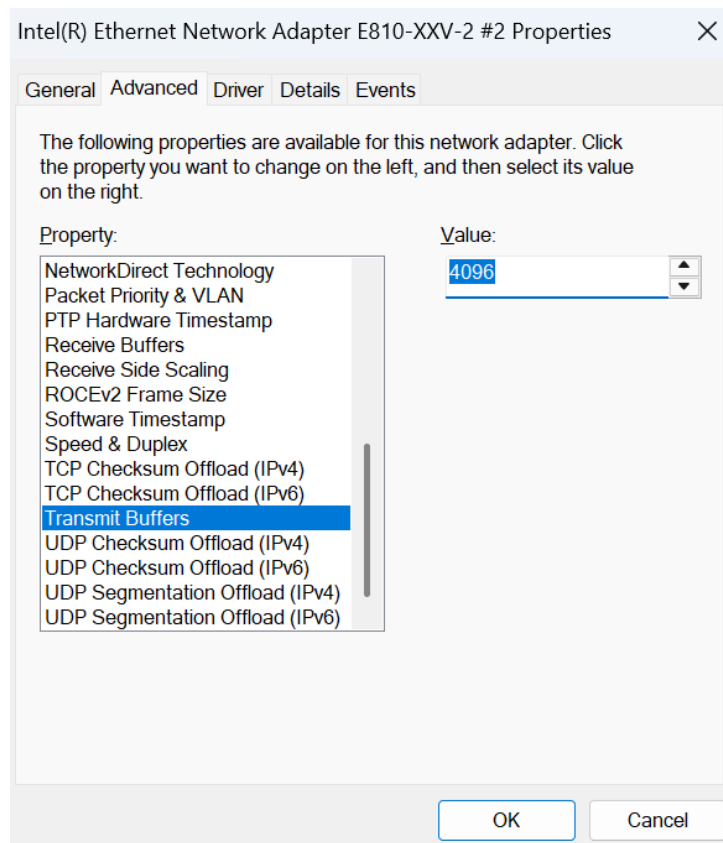

Figure 8 Transmit buffers
5) On “Transmit Buffers” window, set value to the maximum value, as shown in Figure 8.